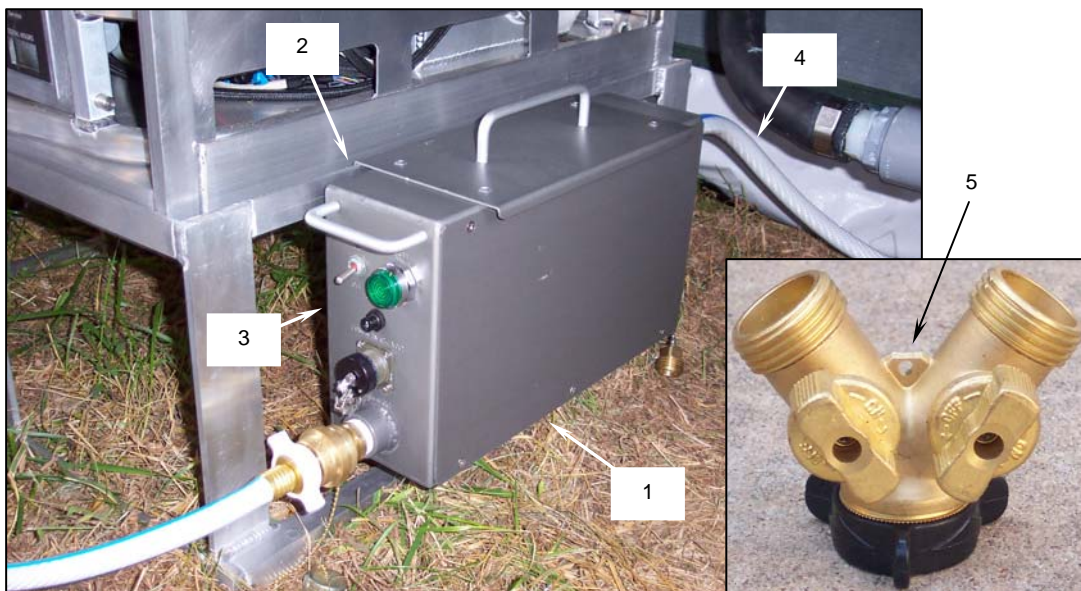

Figure 17. Sink Fill Pump Assembly and Supply Hose Installation.
- a. Hook the sink fill pump assembly (**Figure 17, Item 1**) onto the right sink assembly base rack (**Figure 17, Item 2**) so that the sink fill pump assembly controls (**Figure 17, Item 3**) face to the front of the sink assembly installation.
- b. Connect one end of the 50-ft water supply hose (**Figure 17, Item 4**) to the water inlet at the back of the sink fill pump assembly.
- c. Connect the other end of the 50-ft water supply hose to a suitable, potable water source. If a single source is required to supply water to both the FSC and the kitchen, a Y-adapter (**Figure 17, Item 5**) is provided.